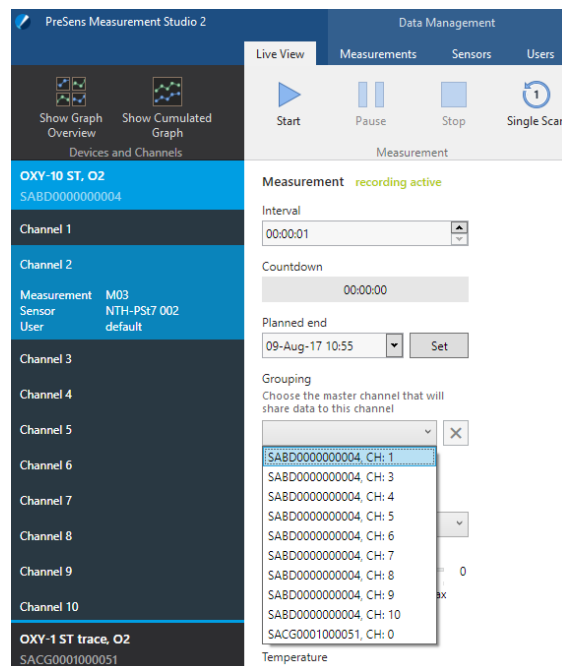

Fig. 42 Setting the Slave channels
1. Select a Slave channel in the **Devices and Channels** section (Channel 2 in Fig. 42).
2. Click on the drop down list below **Grouping** on the Live View screen of this channel and select the Master (Channel 1 in Fig. 42).